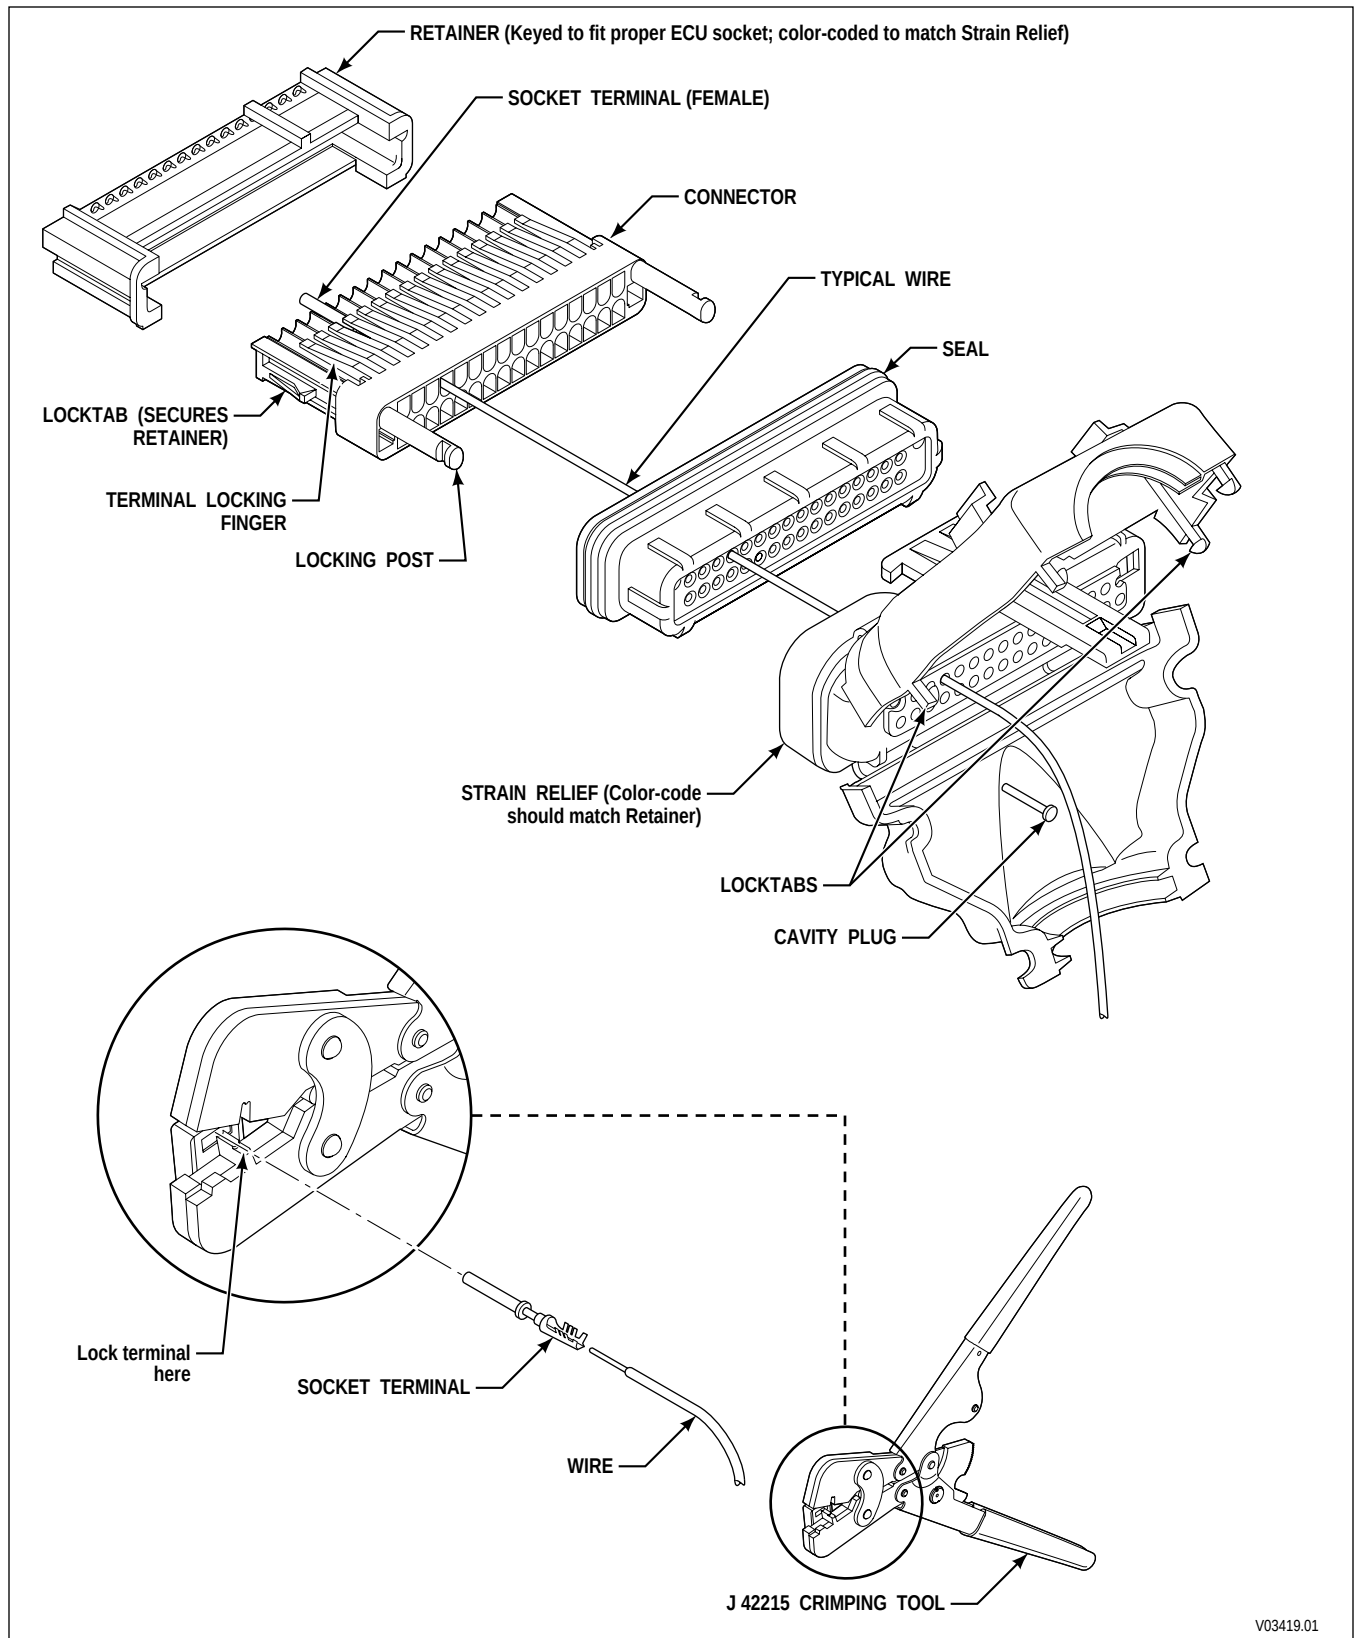

Figure C-1A. Delphi-Packard Micro-Pack Connector (ECU)
1. ECU Harness Connectors (*Figure C-1A*)
The color-code of the strain relief should match the color-code of the retainer. However, cases have been reported where this has not occurred. The retainer color-code and key configuration ensures that the proper wiring harness connector is in the right socket of the ECU. The color-code of the strain relief is of secondary importance and may not agree with the retainer. Change the strain relief to match the color-code of the retainer (*Figure C-1A*) when color-code mismatch is found.
5. Complete terminal installation of the ECU Connectors as follows: (*Figure C-1A*)